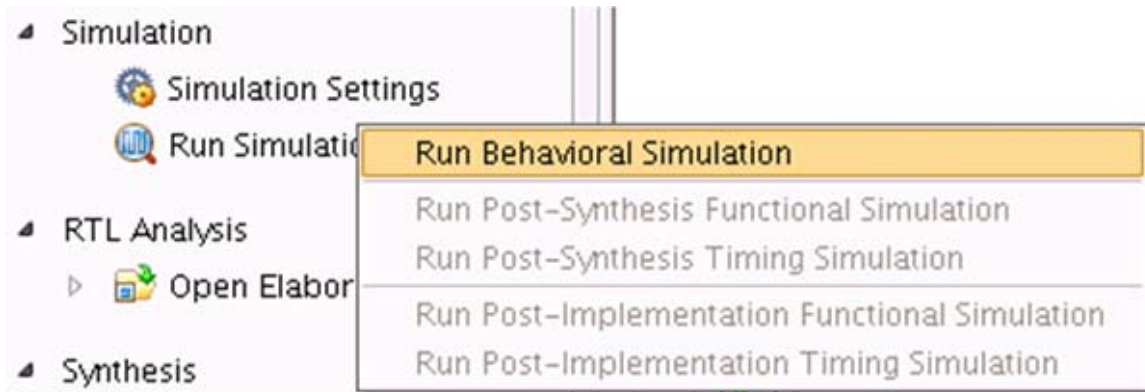

Figure 1-47: Run Behavioral Simulation
3. In the **Flow Navigator** window, select **Run Simulation** and select **Run Behavioral Simulation** as shown in Figure 1-47.
4. In the **Flow Navigator** window, select **Run Simulation** and select **Run Behavioral Simulation** as shown in Figure 1-47.